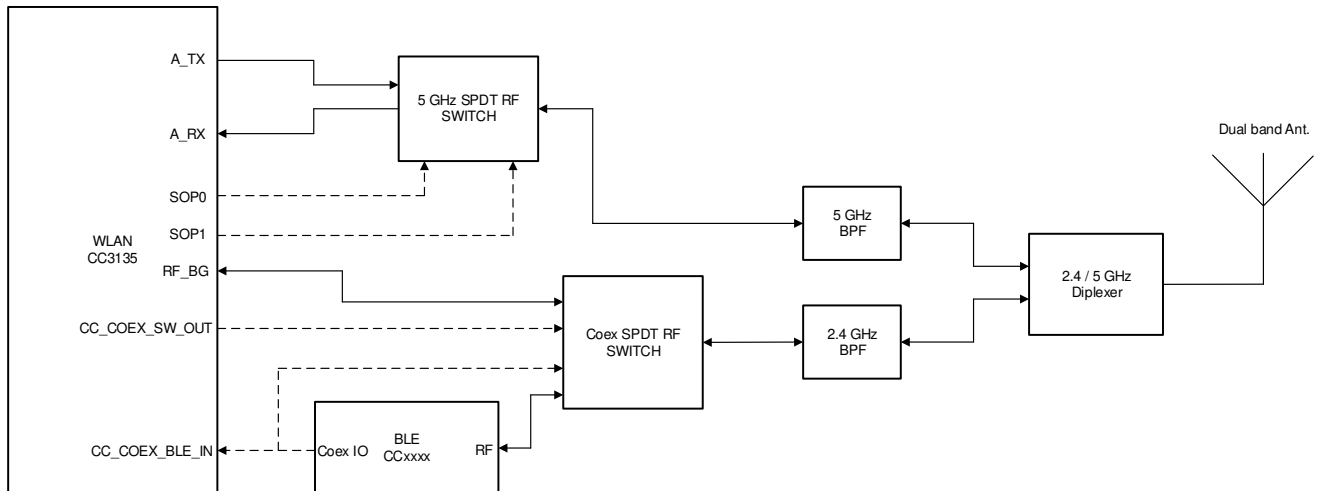

图 10-2. Single Antenna Coexistence Solution with 5 GHz Wi-Fi®
- 5 GHz Wi-Fi band (see 图 10-2)
图 10-2 shows the single antenna implementation of a complete Bluetooth® low energy and WLAN coexistence network with the WLAN operating on either a 2.4- or a 5 GHz band. The SOP lines control the 5 GHz switch. The Coex switch is controlled by a GPIO signal from the BLE device and a GPIO signal from the CC3135 device.